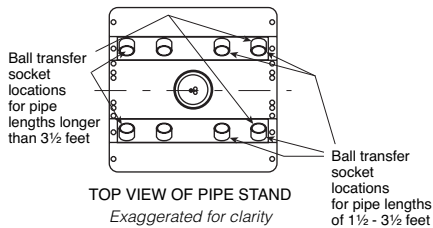

Figure 1
5. For pipe lengths greater than 3½' (1.07 m), the four ball transfer units should be in the outermost sockets. For shorter pipe lengths (1½ - 3½' / 0.46 - 1.07 m), the ball transfers should be installed in a set of sockets shifted toward one end, as illustrated in Figure 1.